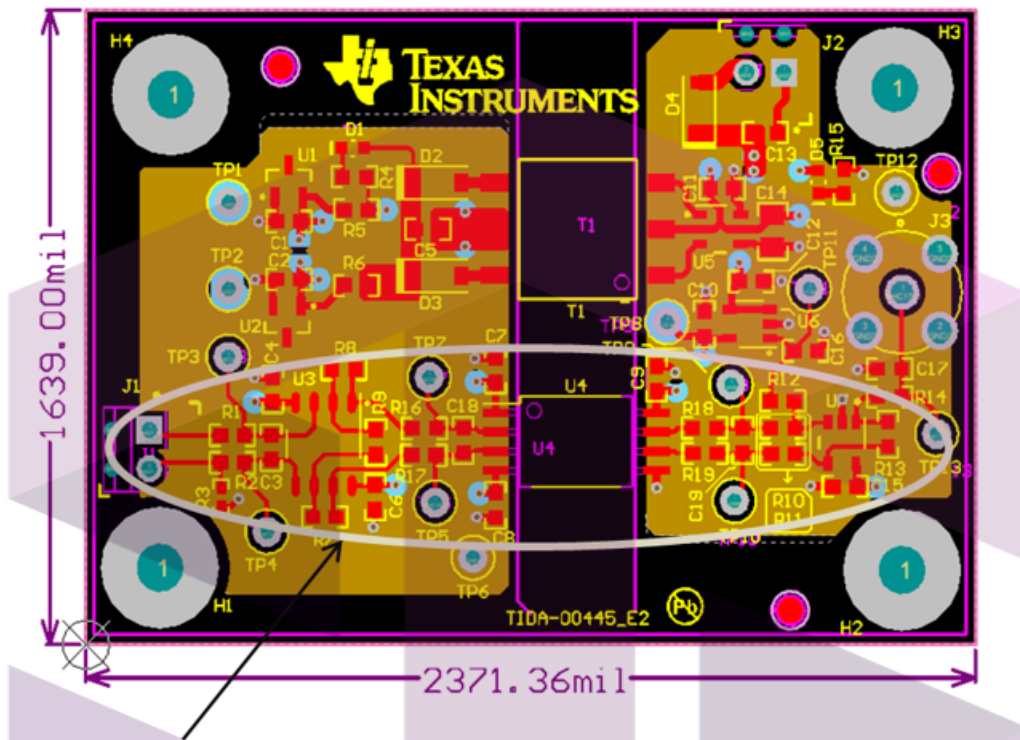

Figure 31. PCB Layout Representing Signal Chain
- Keep trace length from the input to signal chain equal and make sure the entire signal chain is in one straight line (as represented in Figure 31).